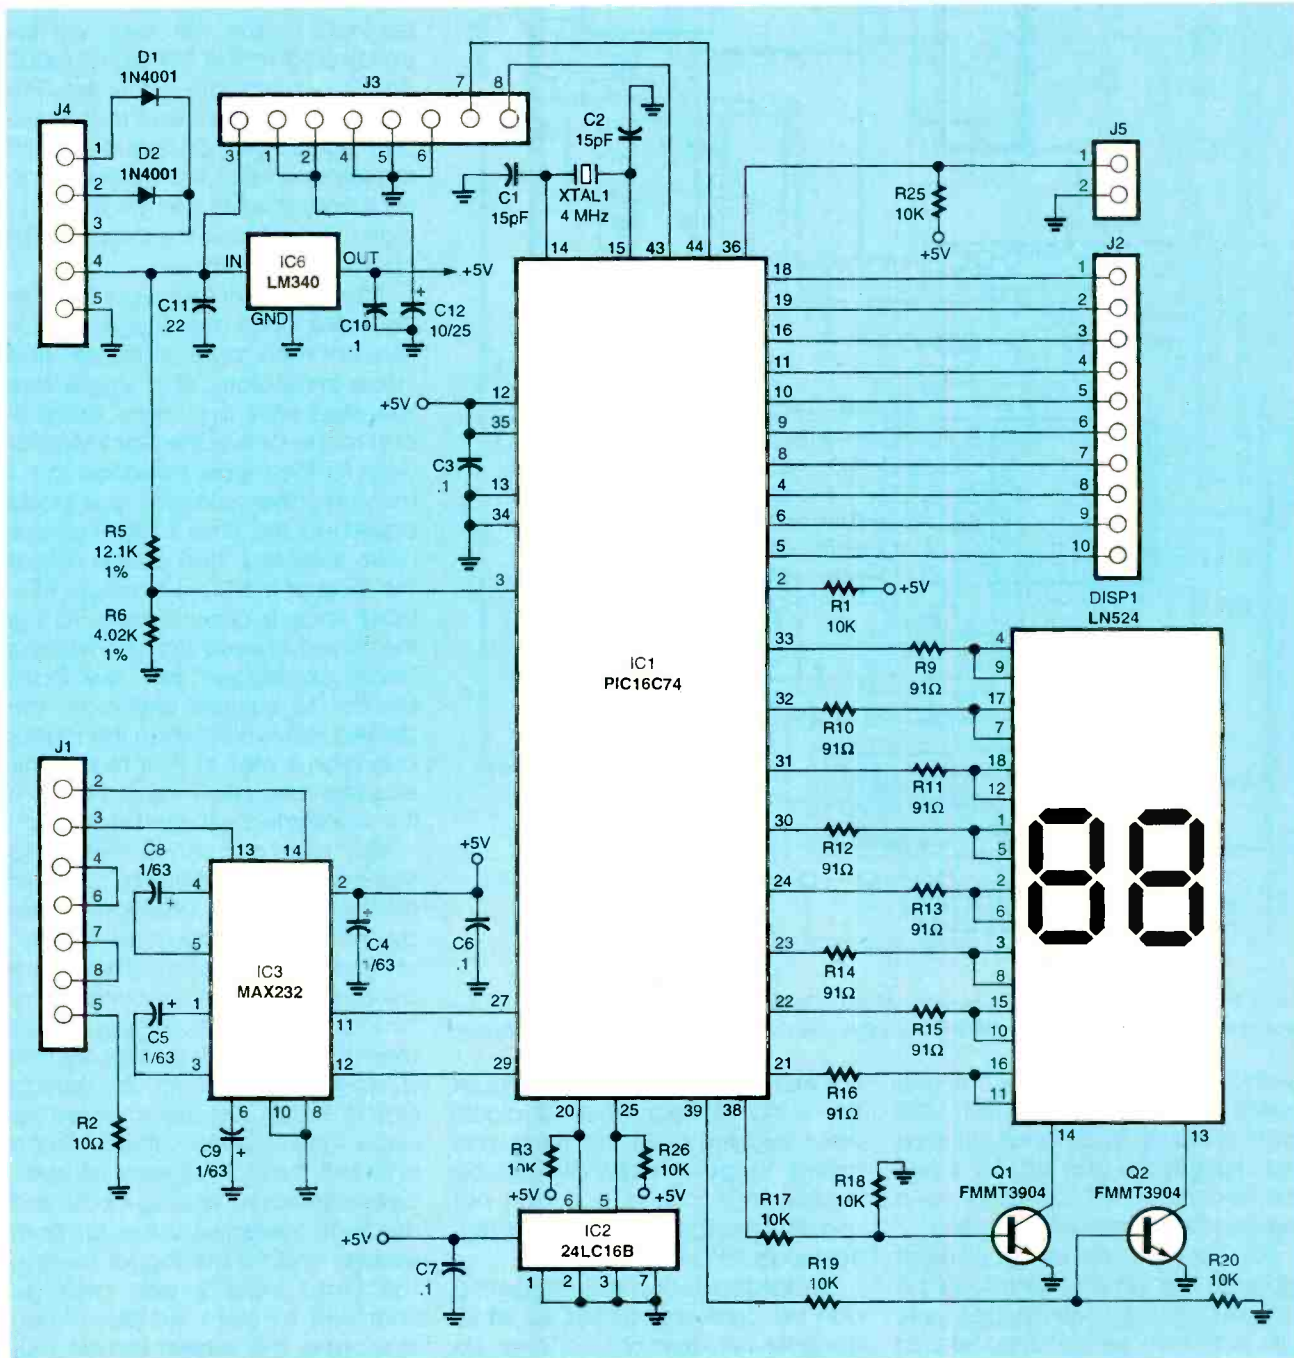

Fig. 1. The Data Monitor is built around a PIC16C74 microcontroller chip. It is easily powered by a wall transformer or a 9-volt battery.
**Circuit Description.** The schematic diagram in Fig. 1 shows that the Data Monitor is built around IC1, a PIC microcontroller. The circuit needs a DC power source between 7 and 12 volts that can supply 200 milliamps. That power is fed through J4. Both a 9-volt battery and a wall-mounted 9- to 12-volt DC adapter are connected through pins 1 and 2 of J4, with pin 5 serving as the ground. Each power source is isolated from each other by D1 and D2. The power is then routed through an on-off switch that is connected between pins 3 and 4 of J4. The power is regulated down to 5 volts by IC6 and filtered by C10-C12.